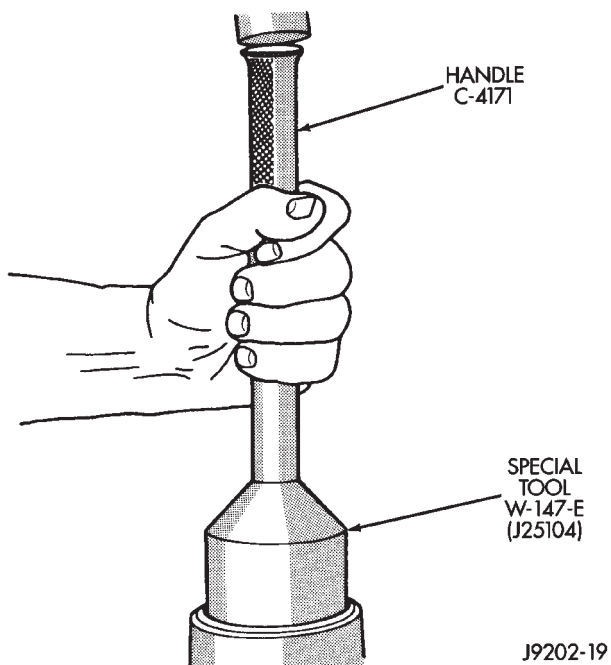

Fig. 53 Pinion Seal Installation
(5) Install pinion front bearing cone into cup and end yoke thrust washer.
(6) Apply a light coat of gear lubricant on lip of new pinion seal. Install seal with Installer W-147-E and Handle C-4171 (Fig. 53).
(7) Install pinion gear into differential housing.